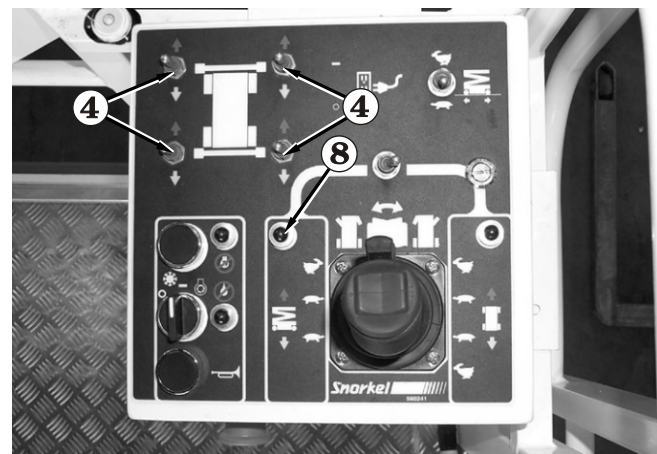
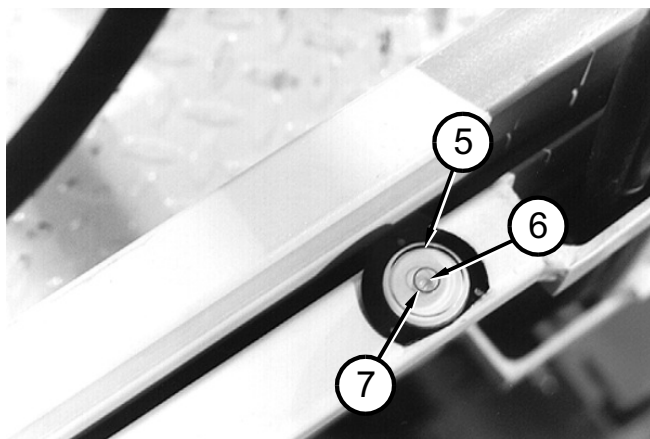

Figure 8.24
Figure 8.25
2. Pull and hold the **Stabiliser switches ④** (see Figure 8.24) backward, one at a time, until all four stabiliser pads ① (see Figure 8.23) contact the ground.
3. Visually check the bubble level **5** to determine which stabilisers must be further extended to level the platform **3** (see Figure 8.25).
4. Lower the appropriate stabilisers just enough to center the bubble **5** (see Figure 8.25). When the **Lift Indicator Light 8** (see Figure 8.24) comes on, the platform can be safely raised.